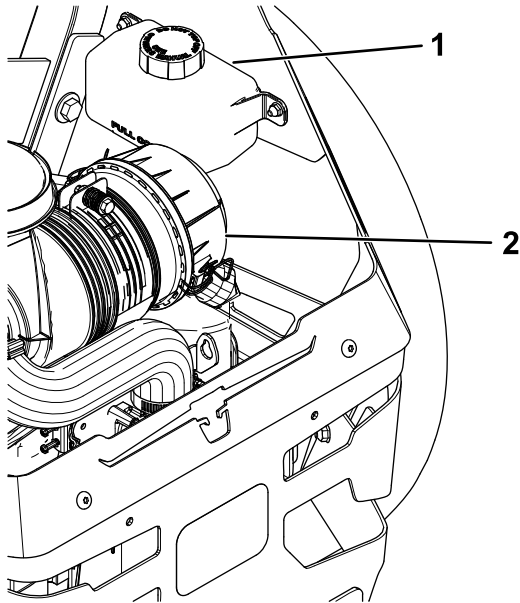

**Figure 67**
2. Check expansion reservoir and if necessary add Toro® HYPR-OIL™ 500 hydraulic fluid to the FULL COLD line (Figure 67).